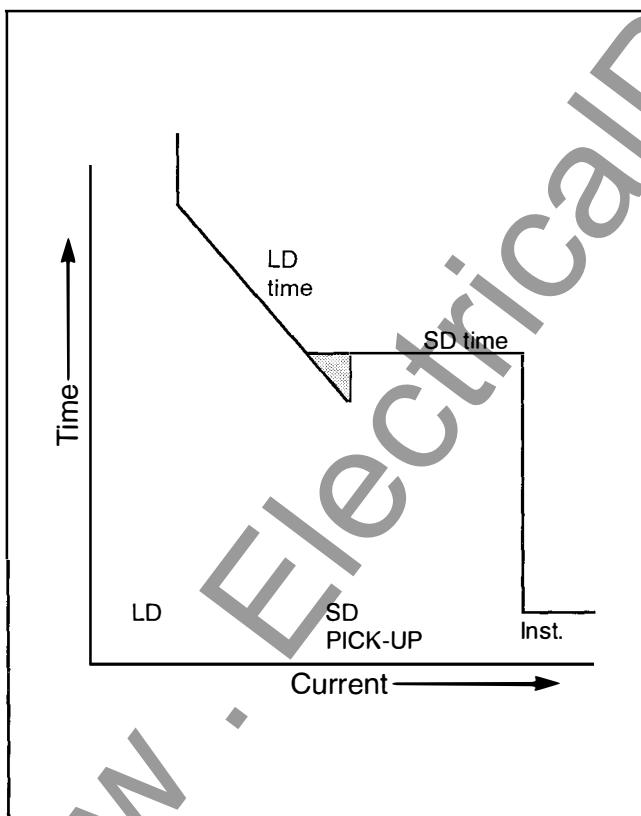

Figure 3-11 Typical LS Curve With  $I^2T$  Slope
Note that the scope of protection offered by the Digitrip MV Trip Unit is a coordinated effort. This is especially true when a number of protective functions, such as long time and short time protection are combined into one cooperative curve. *Figure 3-11* shows a typical time-current which has both long and short time protection, and an  $I^2T$  slope selected for the long delay time. Because of the pickup, time and slope selections made for this illustration, a triangle (shaded area on the illustration) is formed by the intersection of the different time and pickup lines. Internally, the Digitrip MV Trip Unit design looks at this particular curve as if the shaded triangular area does not exist. Therefore, in an actual performance situation, the phase short delay time function would take precedence over that portion of the phase long delay time line forming the one leg of the triangle. This does not create a problem from a protection or coordination standpoint. In fact, it is recommended on certain applica-
- 3) The internal design of the Digitrip MV Trip Unit is such that the Phase Short Delay Time setting might take precedence over the Phase Long Delay Time. This is graphically illustrated in *Figure 3-11*